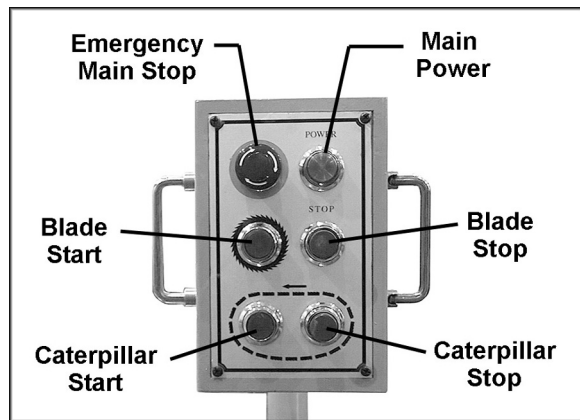
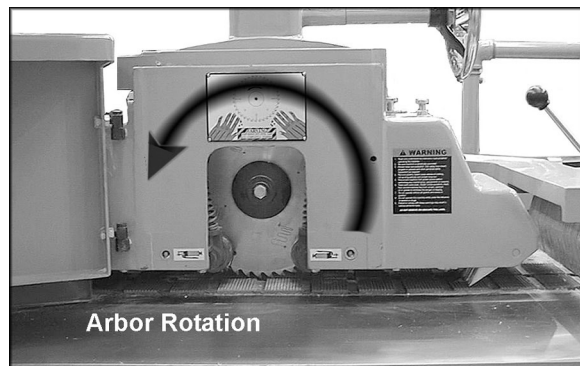

Figure 5
Figure 6
The buttons on the control panel are explained in Figure 5. After making electrical connections, the machine should be turned on to verify the direction of rotation. The blade arbor should rotate counterclockwise when viewed from front of machine (Figure 6). If rotation is wrong, turn off the machine, disconnect power and switch any two of the three electrical leads.
IMPORTANT: The emergency stop button (Figure 5) shuts down all operations on the machine simultaneously. To release the emergency stop button, twist it clockwise.
5. Remove screw and flange and install new blade, making sure to orient it properly - the teeth at bottom of blade should face toward infeed side of machine (as shown in Figure 6).